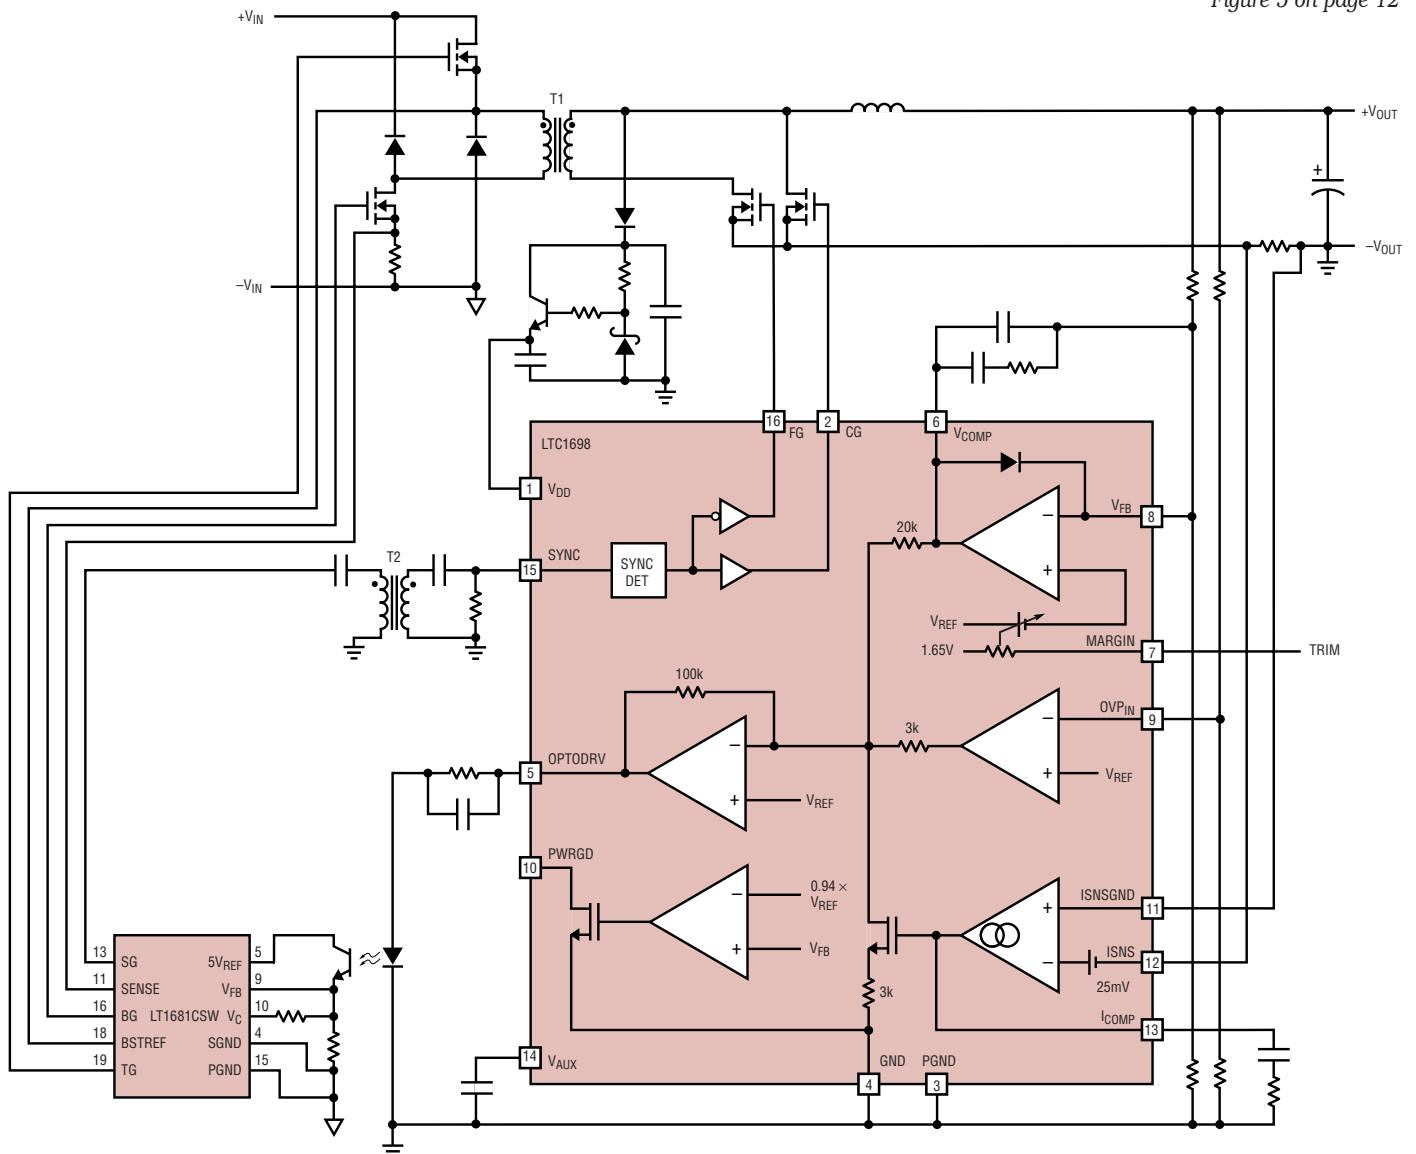
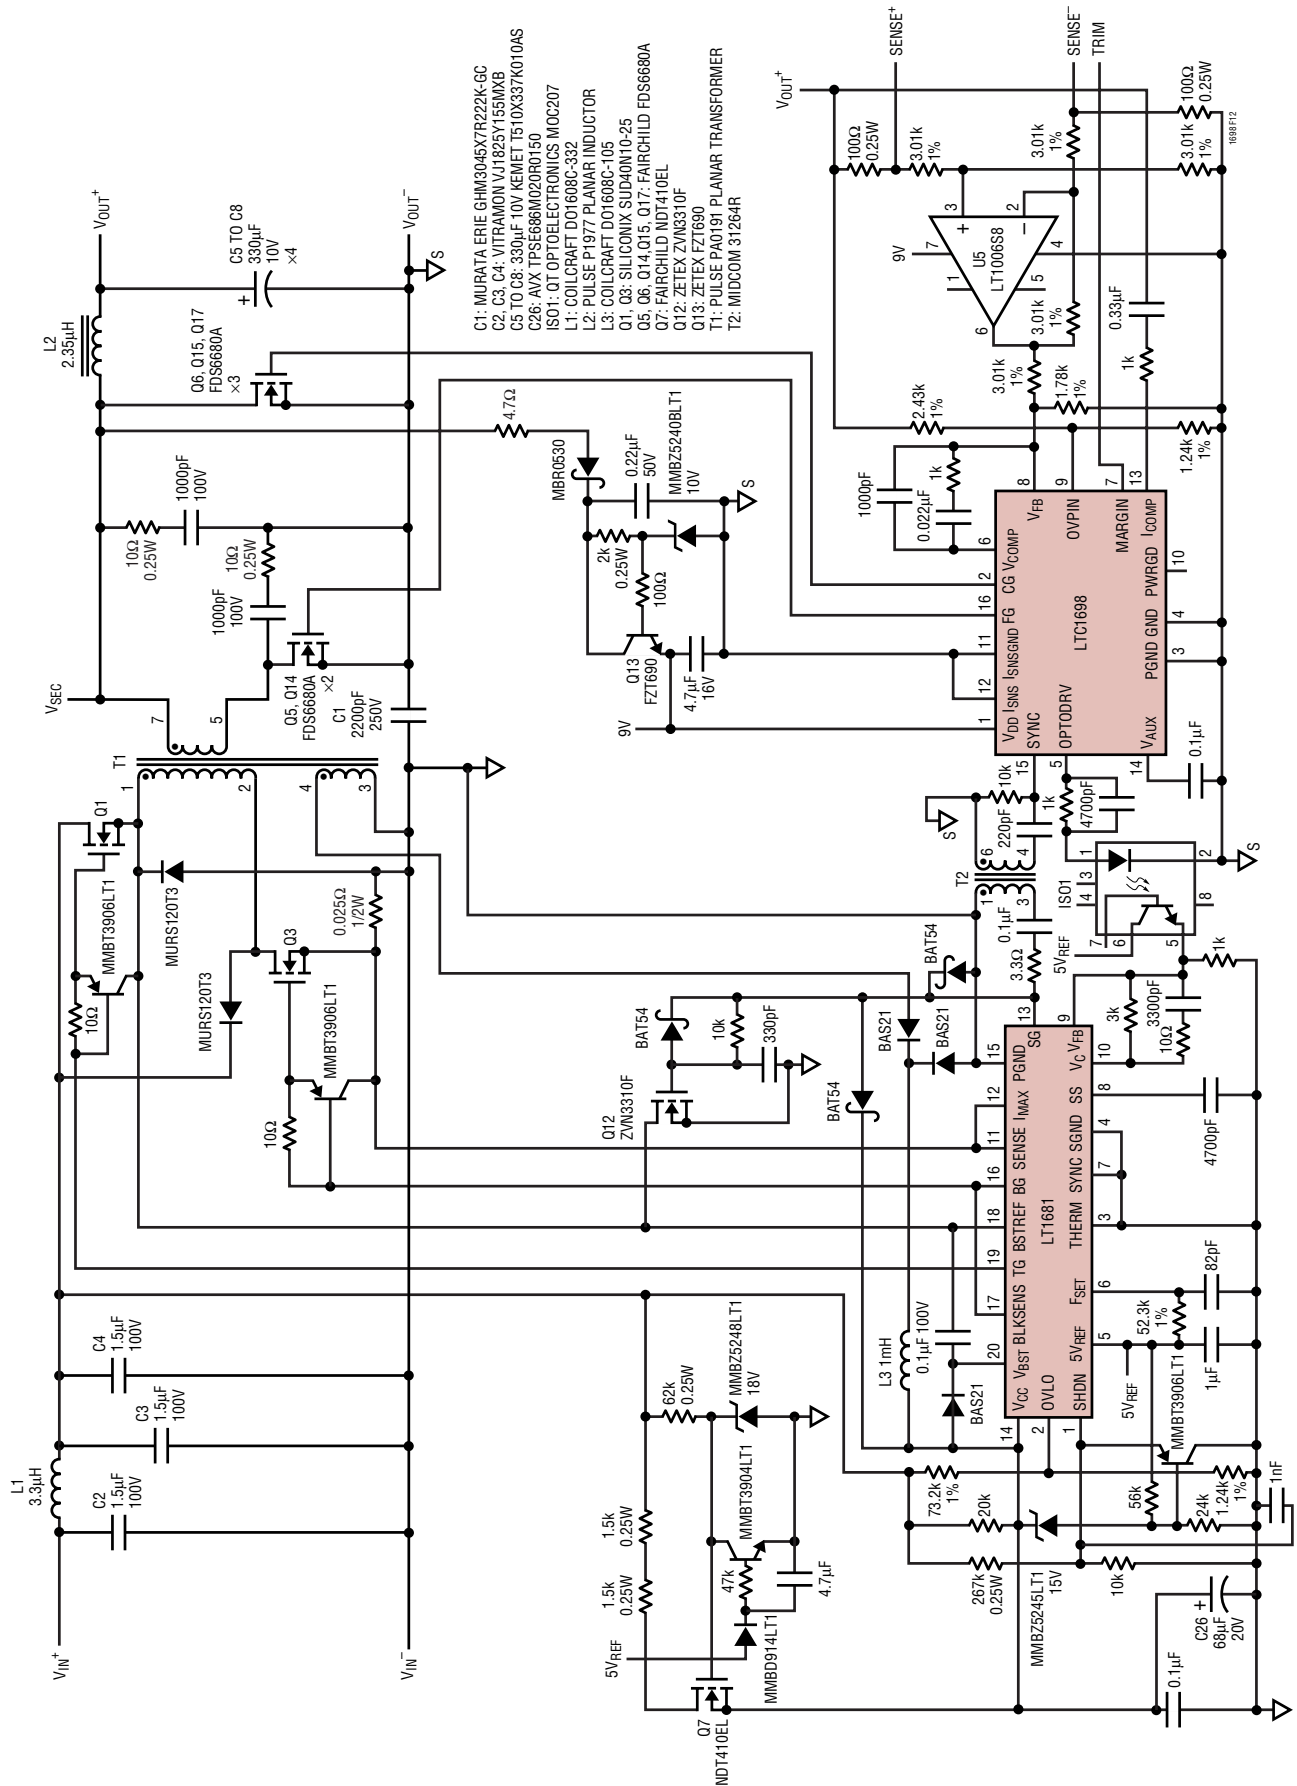
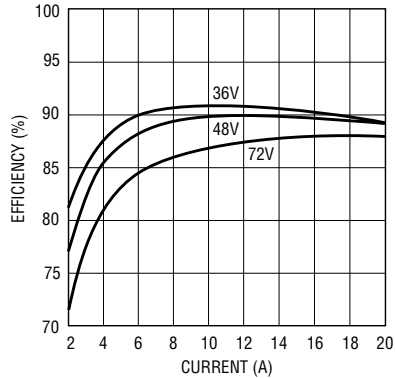

Figure 4. LT1698 simplified block diagram
Figure 5. 36V-72V DC to 3.3V/20A synchronous forward converter with fast start and differential sense
Figure 6. LT1681/LTC1698 efficiency for circuit in Figure 5
The LTC1698 secondary synchronous forward controller synchronizes with the LT1681 via a small pulse transformer and drives the secondary MOSFETs and optocoupler directly, eliminating the need for drivers and secondary references. Referring to the block diagram in Figure 4, pulses from T2 are fed into the SYNC pin. A positive edge forces the catch gate output (CG) high and the forward gate output (FG) low. A negative edge forces the forward gate high and the catch gate low. In the event that the
Figure 5 fills in the details of the Figure 4. Many of the features found in an isolated telecom power module are included. MOSFET Q7 and associated circuitry form an active, fast start-up circuit. This eliminates the dissipation and long turn-on time associated with a trickle-start resistor. Once started, an extra winding on transformer T1 powers the LT1681. Operational amplifier U5 allows differential remote sensing of the output voltage. An efficiency graph of this circuit is shown in Figure 6. Other output voltages (1.8V, 2.5V or 5.0V) can be realized by substituting components in the same basic circuit.
Figure 5 on page 12*